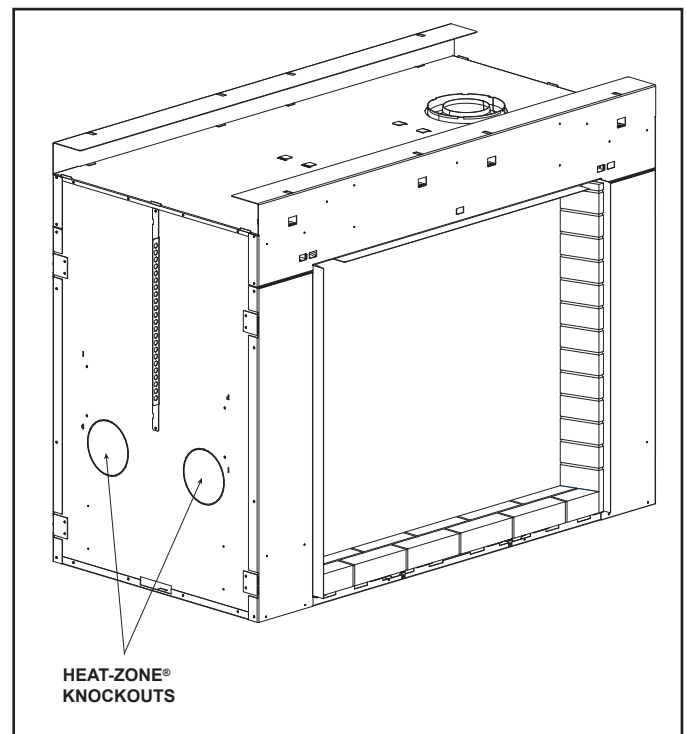

Figure 11.8 Heat-Zone® Gas Knockouts.
1. Remove one of the knockouts from the side of the appliance and discard it. See Figure 11.8.